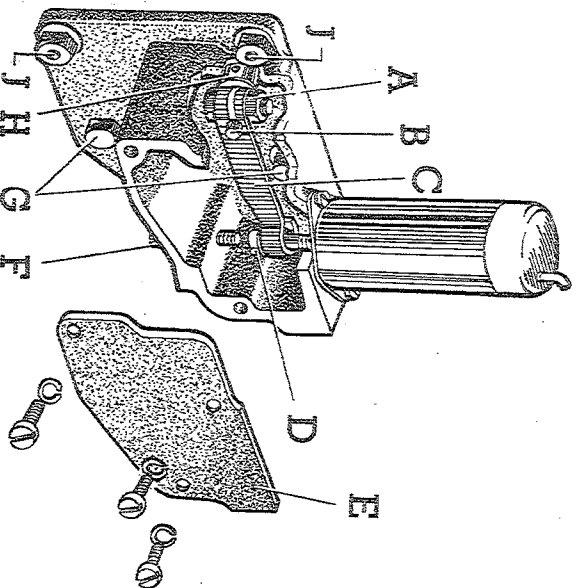

Fig. 9. Adjusting the solenoid lever
- (1) Remove the cover plate E from the solenoid bracket.
- (2) Slacken off the clamping bolt A in the solenoid lever.
- (3) Energize the solenoid as already described and put a  $\frac{3}{16}$ " (4.7625 mm) diameter pin through the hole in the valve setting lever into the hole in the casing.
- (4) Hold the solenoid lever C downwards so that it bears lightly against the head of the plunger bolt D and tighten the clamping bolt A (Fig. 9). Make sure that there is no end-float
5. Remove the distance collar H (Fig. 9).
It is very unlikely that any maladjustment of the lever will develop to prevent overdrive from releasing. Make sure that there is  $\frac{1}{4}$ " (6.35 mm) clearance between the solenoid adjusting screw F (Fig. 9) and the head of the solenoid bolt when